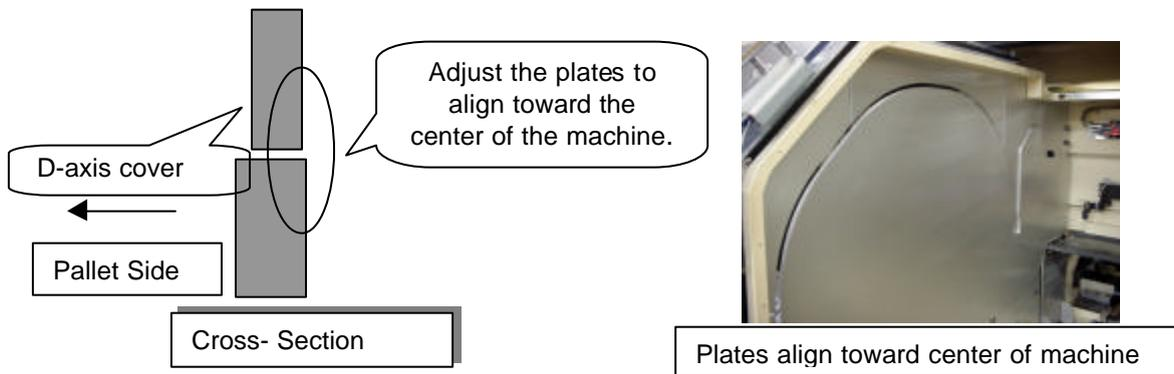

Figure 6
3. Park the D-axis pallets, align the D-axis pallet cover and D-axis escape position aluminum plate as indicated in Fig.6.